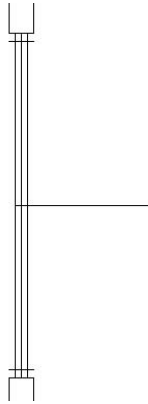

FIGURE 4.43: The horizontal guideline drawn through vertical lines
6. Check the status bar to see if Ortho is on. If it's not, click it to activate it. Type **L**↵ to start the Line command. Click the Midpoint Osnap button, and then move the cursor near the midpoint of the left vertical line. When the colored triangle appears at the midpoint of this leftmost line, click. Hold the cursor out directly to the right of the point you just selected to draw a horizontal line through the three vertical lines. When the cursor is about two feet to the right of the three vertical lines, pick a point to set the endpoint of this guideline. Press ↵ to end the Line command (see Figure 4.43).